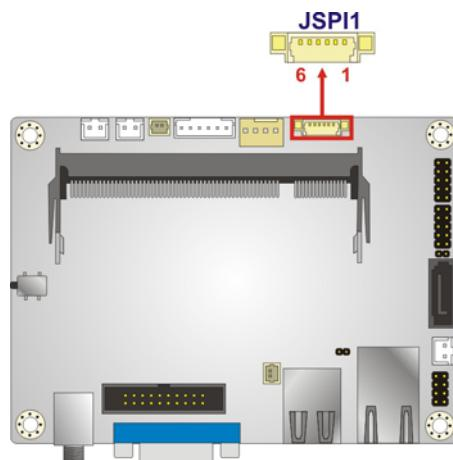

Figure 3-5: BIOS FW Connector Location
- CN Location:** See **Figure 3-5**